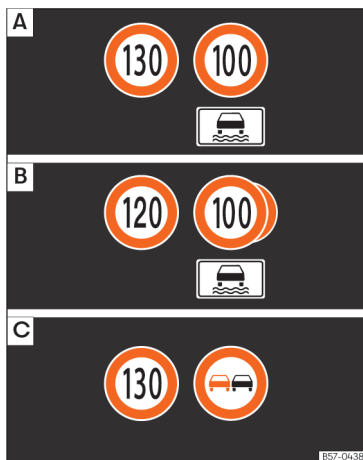

Fig. 10 On the instrument panel display: examples of speed limits or overtaking prohibitions with their respective additional signs.
The road signs detected by the system are displayed on the instrument cluster display »» Fig. 10 and, depending on the navigation system fitted in the vehicle, in the infotainment system as well .
After checking and evaluating the information from the camera, the navigation system and the current vehicle data, the system displays up to three current road signs **>>> Fig. 10 ** with their additional signs.
- **First:** The sign that is currently valid for the driver is shown in the left side of the screen. For example, a maximum speed limit of 130 km/h (100 mph) **>>> Fig. 10 **.
- **Third:** Thirdly, a sign prohibiting overtaking is partially displayed. If there is no conditional speed limit and overtaking is prohibited, the latter sign will be displayed in second place **>>> Fig. 10 **.